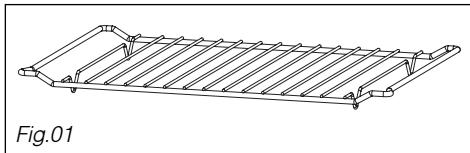

Fig.01
- *The grill (Fig.01):* may be used to toast, brown or grill. The grill must under no circumstances be used with other metal containers in the microwave, grill + microwave or fan cooking + microwave functions. However, you may heat food in an aluminium tray by using a plate to separate it from the grill.